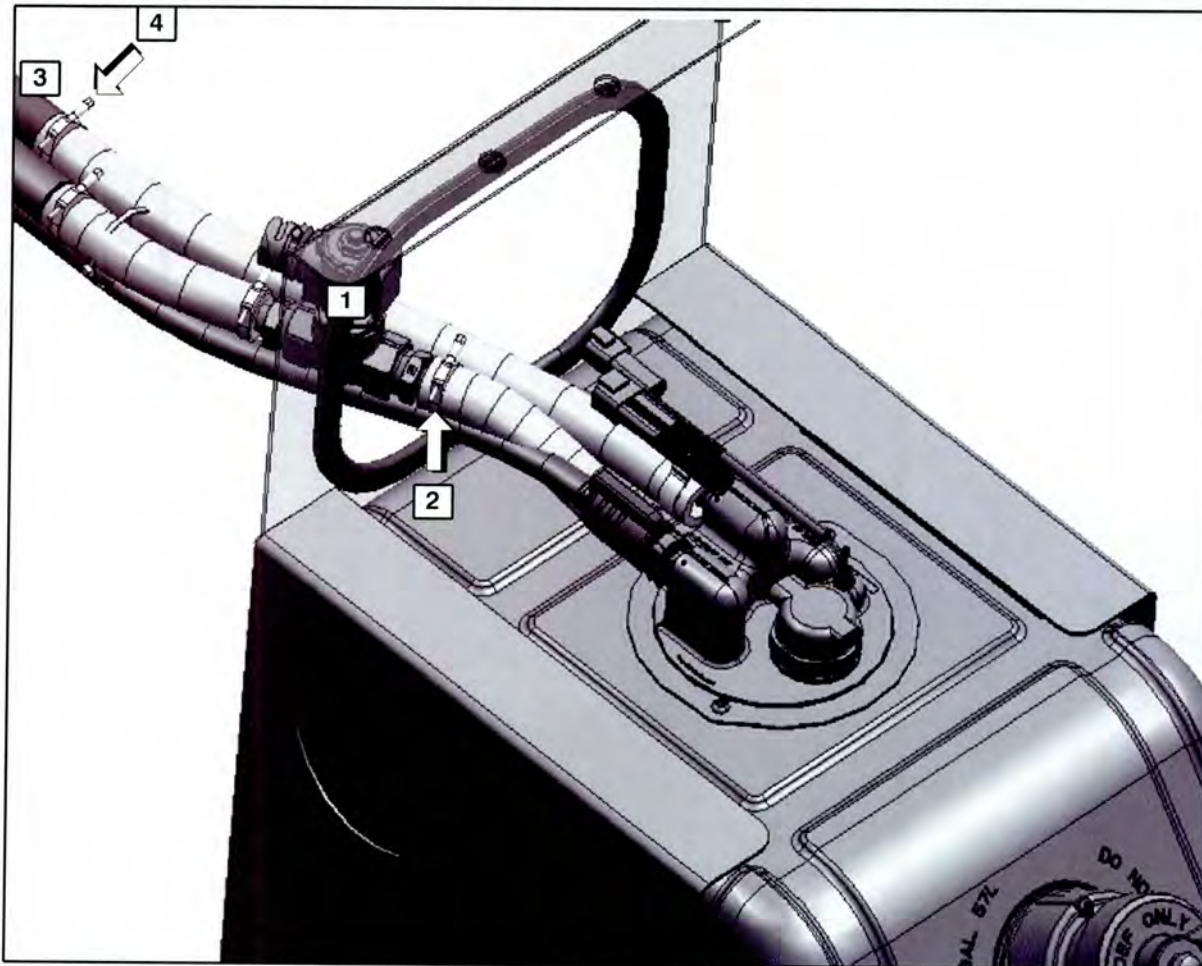
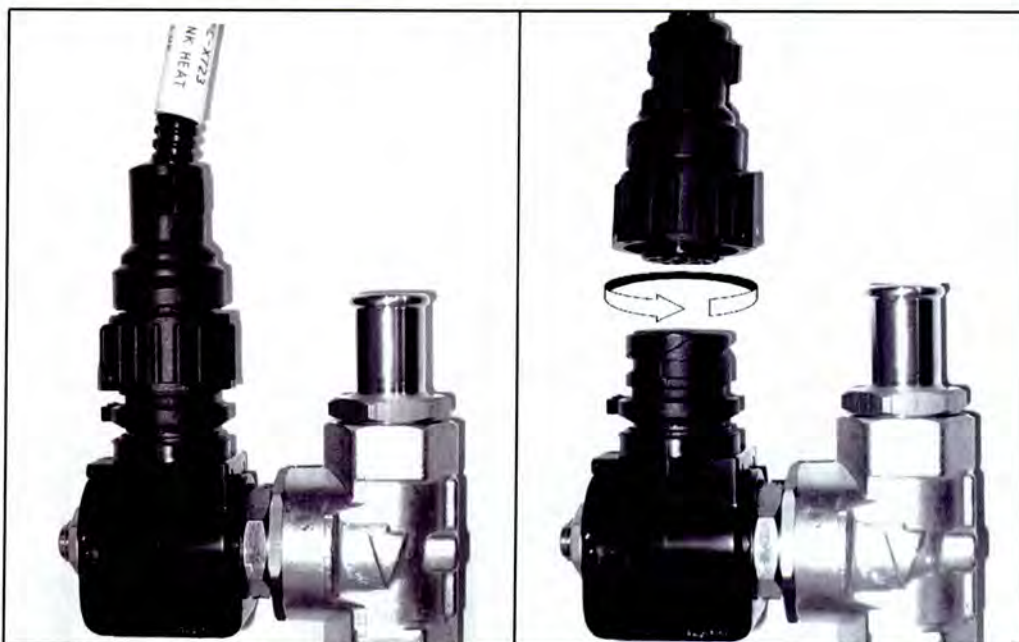

Figure 6. Top of DEF tank.
Figure 7. Coolant control isolation valve power harness.
10. Locate the two (2) coolant lines attached to the DEF tank head unit (refer to Figure 6).
11. Locate coolant line A, equipped with the coolant control isolation valve (Item 1 in Figure 6). Locate and twist to disconnect the connector on the control isolation valve harness (refer to Figure 7), closing the valve.
13. Locate a shop supply piece of 5/8 inch ID hose and securely plug one end. Using a screwdriver, loosen the hose clamp at the intersection with the copper fitting (Item 3 in Figure 6). Carefully remove the coolant hose from the copper fitting and immediately replace with the "one-end plugged" shop supply piece of 5/8 inch ID hose on the copper fitting to stop the coolant from draining.